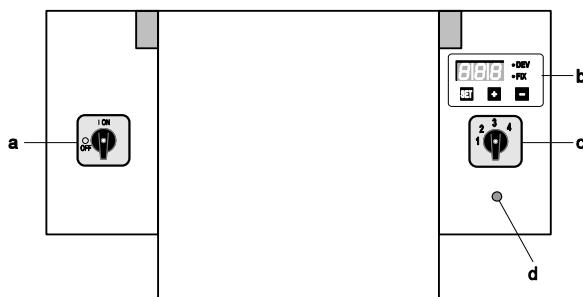

Fig. 6
- Place the On/Off switch in position I (ON) (fig. 1.2a; fig. 6.a).
- On the display you see the current developer temperature: e.g. 26.3°C / 79°F (fig. 6.b).
- The OK lamp will light up after switching on the NDT U, when the selected developer temperature has been reached (fig. 6.d).
- The actual developer temperature always appears on the display (fig. 6.b). The desired developer temperature can be set on the display.
The dryer setting can always be modified, from setting 1 to 4, via the switch (fig. 6.c) on the control panel. Setting 1 is the lowest setting value and setting 4 the highest. The standard dryer setting is set to setting 3.